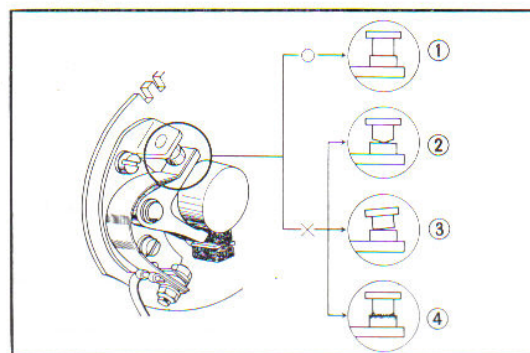
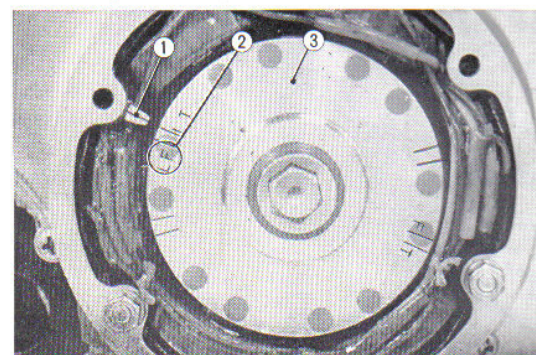

Fig. 6.8 Point contacting surface center portion contacting condition
Fig. 6.9 Mark "LF"
- (1) When the generator cover is removed, a little oil may appear.
- (2) The point clearance should be adjusted for both points.
- (3) When the breaker arm locking screw is tightened, the point clearance may vary; thus, the clearance should be rechecked after tightening the screw.
- (4) When the point contacting surface is rough or burned, the point should be removed and corrected with an oilstone. Following the correction check the contacting condition so that the center portion contacts. (Fig. 6.8)
- (5) Upon completion of the point polishing and correction, clean off oil with trichloethylene.
- f. Following completion of the point clearance adjustment, the ignition timing is adjusted. For the left cylinder ignition timing, it is ideal that the contact point opens simultaneously when mark "LF" on the generator rotor passes the stator index mark. (Fig. 6.9)